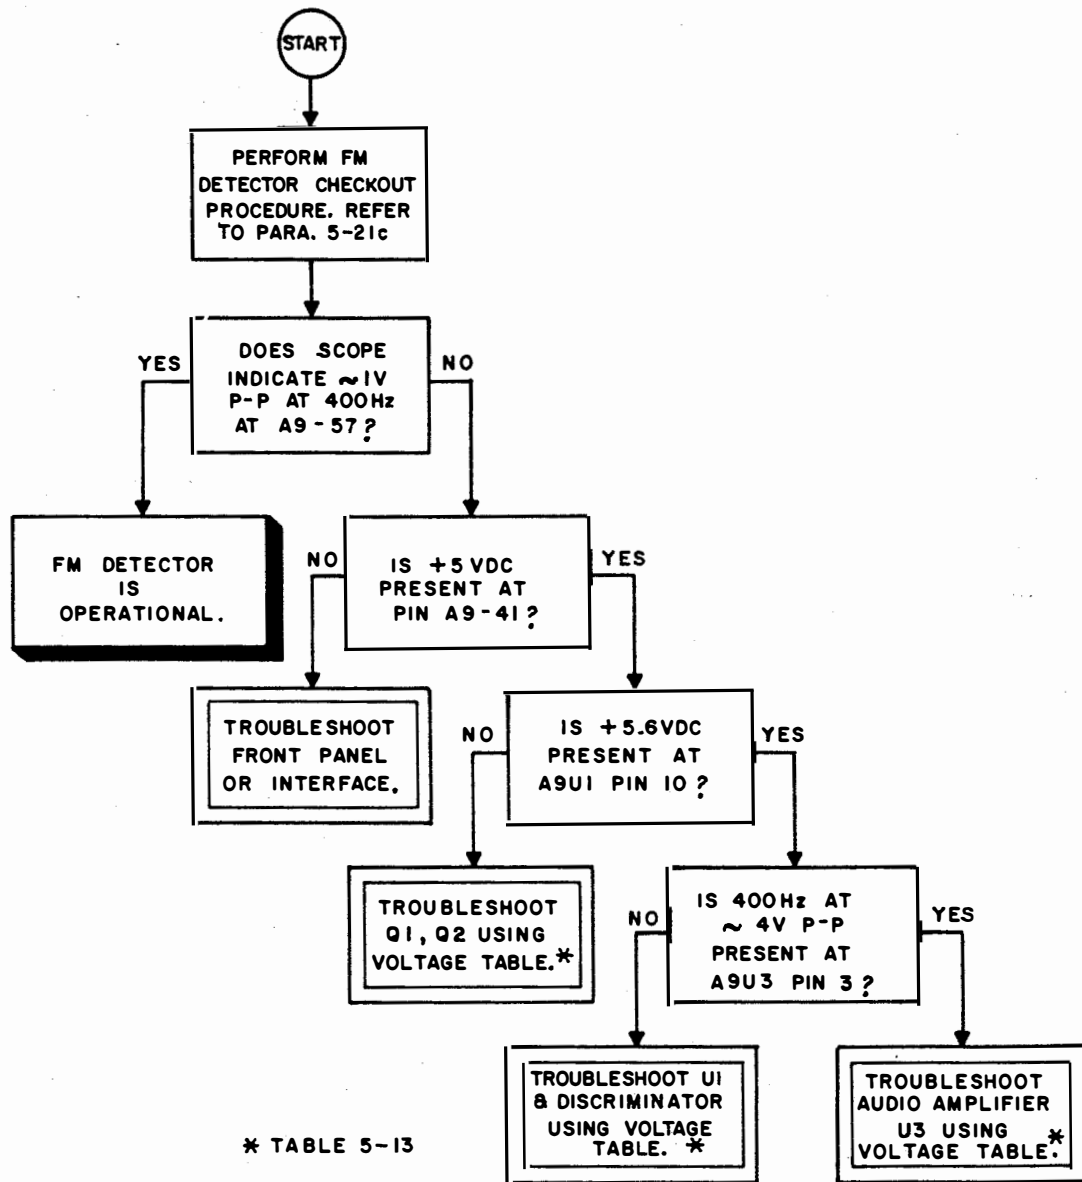

Figure 5-19. FM Detector Fault Logic Diagram
(2) Figure 5-19, FM Detector Fault Logic Diagram.
(3) Table 5-13, FM/CW/SSB Detector Voltage Table.
(4) FO-11, FM/CW/SSB Detector Schematic Diagram.
(5) FM/CW/SSB Detector circuit description paragraph 3-57.